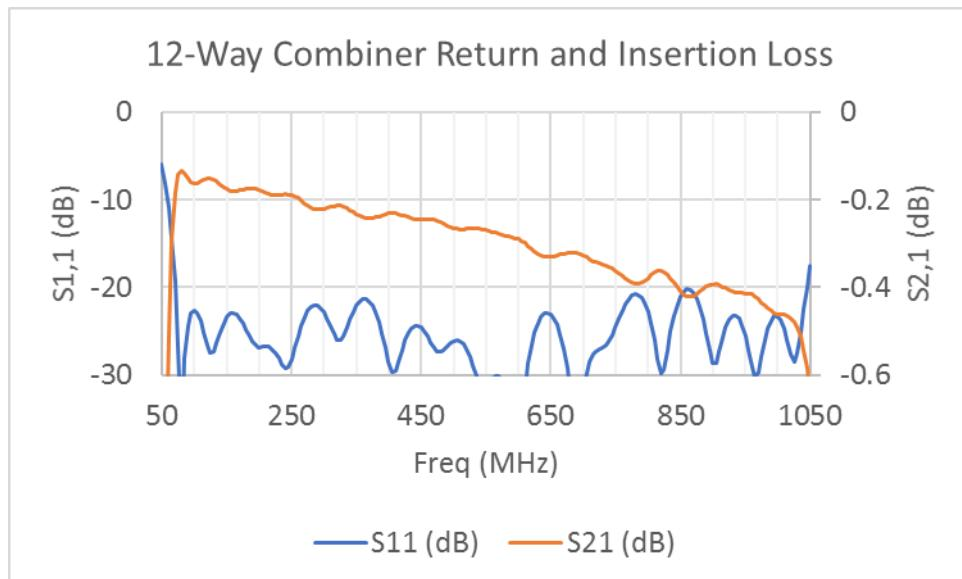

**Figure 4-5. Typical Module Response**
3. If both half sections resemble Figure 4-4, and the gain is still slightly low (i.e., several dB below typical), try disconnecting the inputs from the Final Modules one at a time, then reconnect them. Note the difference in response when disconnecting the module; if any module causes less of a change in gain than the others, check the module and the coaxial cable associated with that module. Typical module response is shown in Figure 4-5.